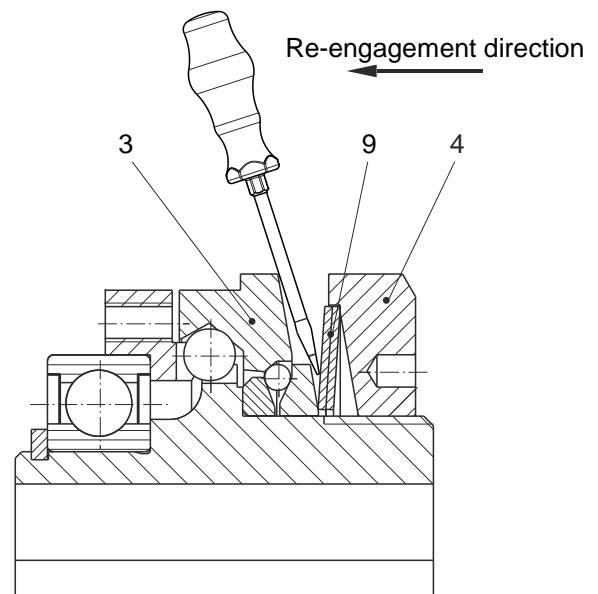

Fig. 2
- Manually, using a plastic hammer or installation levers (Fig. 2) supported on the cup springs (9), e. g. two screwdrivers placed opposite each other.